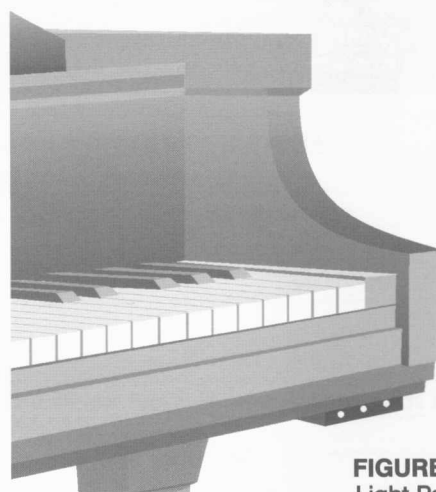

FIGURE 19
Locate the light panel under the rim or under the keybed, whichever is most visible (**Figure 19**). Unbundle the wire attached to the light panel. Attach the light panel with two 3/4-inch screws. Run the black light-panel wire over the top of beams and plug the light panel telephone jack into the **LIGHTS** outlet on the Humidistat. Use (3) 3/16-inch clamps with 1/2-inch screws to hold the wires from the light panel to the Humidistat.